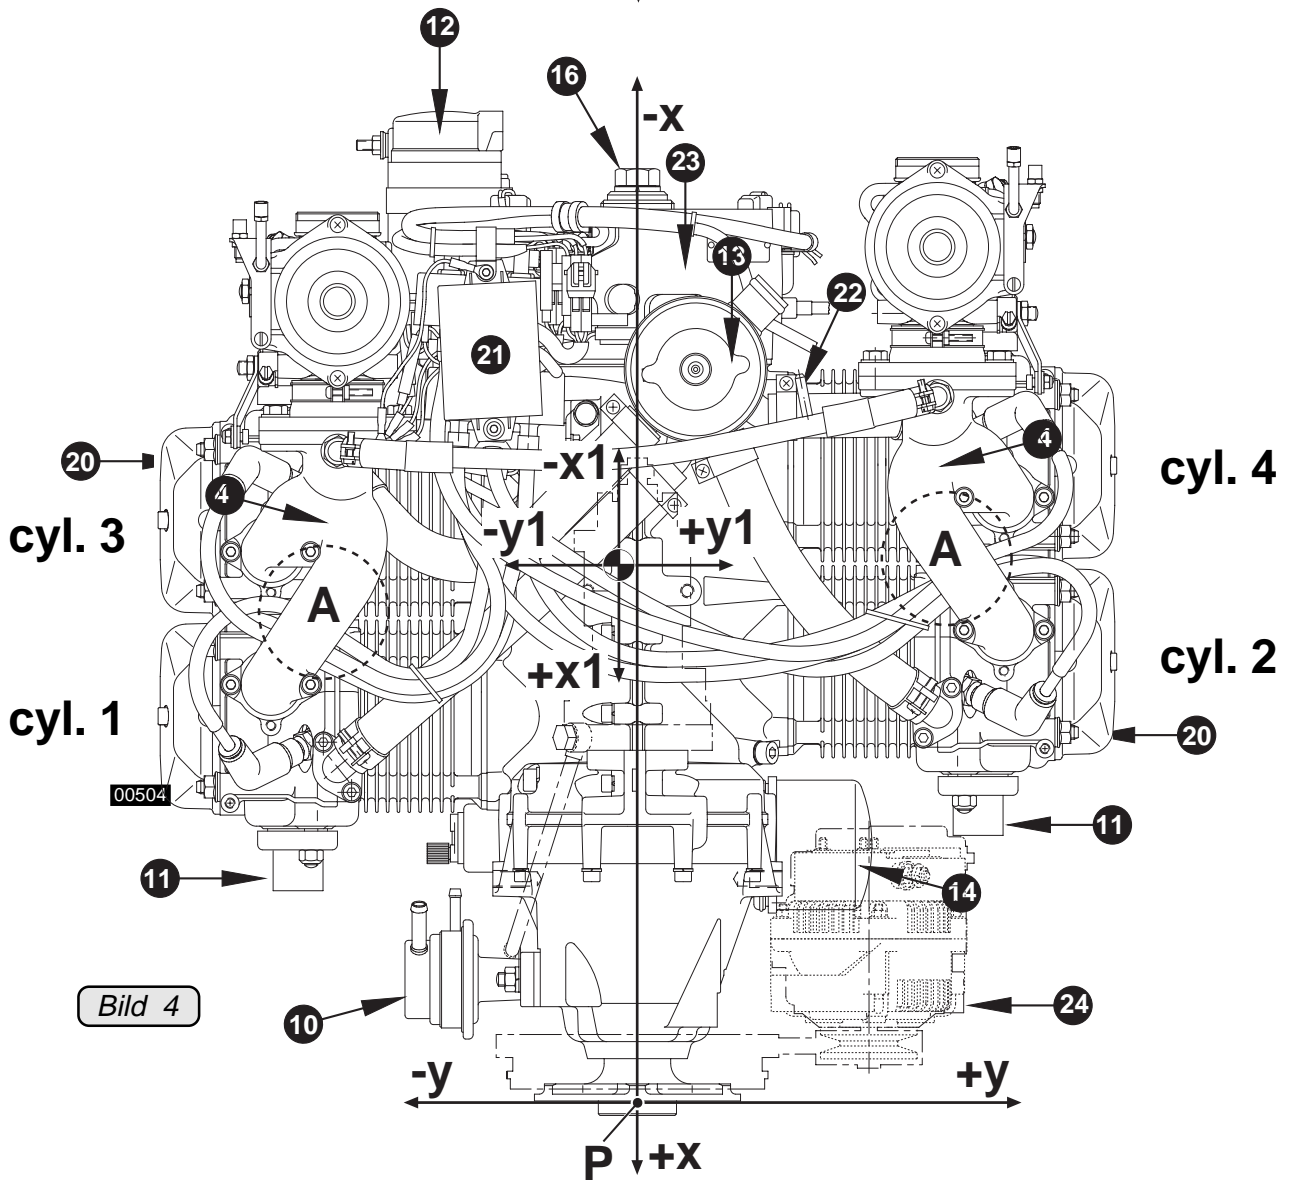

Bild 4
8. Ambient temperature for electric components: (fig.4, pos. 20)
- ☞ crank the engine by hand on attachment screw of flywheel two complete turns anticlockwise (viewed from Magneto side). See fig. 4.